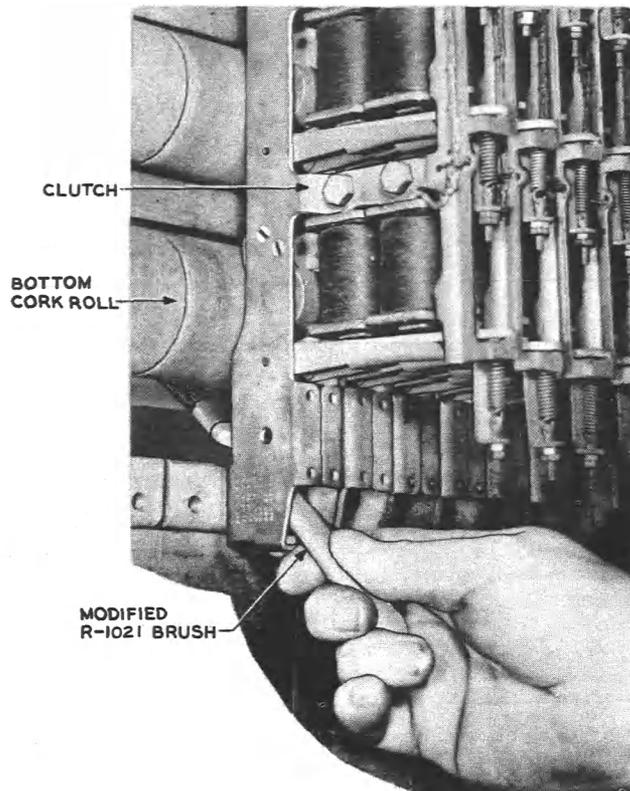

Fig. 11 - Position of Brush Against Cork Roll
(10) Remove the rack as covered in the Division 026 section covering the type of clutches involved, in order to gain access to the cork roll.
(11) On frames where two up drive cork rolls are used, such as for the final selectors, apply the rosin solution only to the lowermost cork roll.
(12) In applying the rosin solution to a cork roll, it is recommended that the operator keep his head above the level of the rosin solution so as to avoid inhaling the fumes, which are heavier than air and tend to move downward.
(13) Pour a sufficient amount of rosin solution in a metal container to care for the necessary number of immediate applications. Make sure that the original container is tightly closed when not in use.
(14) If the R-1021 brush has not been modified for previous usage, using a pair of scissors cut off the bristles approximately one inch from the ferrule and on a slight bias. Then dip the modified brush the full length of the bristles into the solution and shake the excess off. Exercise care, when removing the excess solution, not to get it on the surrounding apparatus. The residue will be sufficient for one application.
(15) Insert the brush as prepared above at an angle of approximately 45 degrees through the lowermost opening in the frame of the associated clutch so that the brush is under and beyond the vertical center line of the cork roll. Then slightly increase the angle so that the bristles of the brush engage the revolving cork roll as shown in Fig. 11. Hold this position for 5 seconds. Exercise care when inserting the brush to avoid touching the clutch frame.